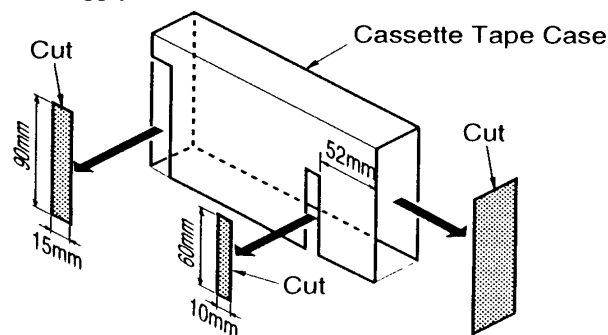

Fig. 4 - Hot Chassis Safety Cover
Caution: HOT CIRCUIT (Primary circuit) exists on the Main circuit board. Use extreme care when servicing to prevent electrical shock. Refer to Fig. 4 for suggested safety procedure.
Hot Chassis Safety Cover (Fig. 4)
Using a cassette tape cover, cut and fashion it to the specifications shown in Fig. 4. After preparing the tool from the cassette cover, place it over the power supply section on the Main circuit board to prevent accidentally touching the power supply.
6. Cover the Power Supply section on the Main circuit board with the **Hot Chassis Safety Cover** (Fig. 4.) to prevent electrical shock when servicing.